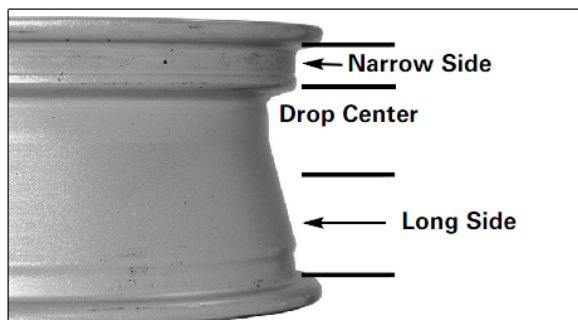

Figure 2 - Determine Narrow Side of Wheel
D. Always loosen the bead on the narrow side of the wheel's drop center first (tire removed in figure 2 for clarity).
3. Turn the wheel around and repeat loosening procedure on the other side of the wheel (figure 4). This should be the long side of the drop center (figure 2).